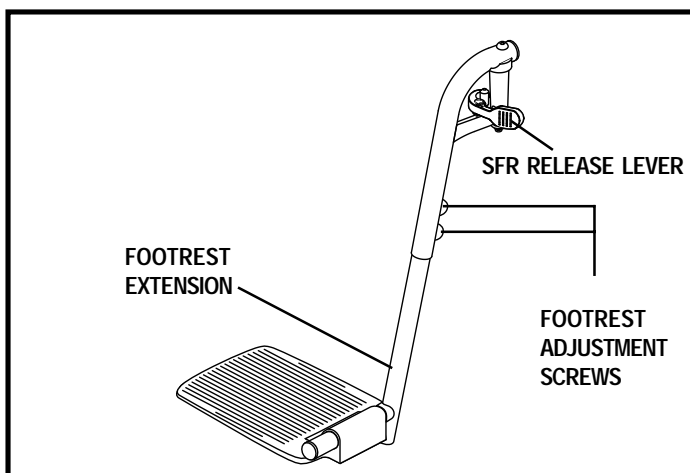

Figure 24. Swing-Away Footrests
1. Push in the release lever. See figure 24.
1. Remove the two adjustment screws from the side of each footrest extension. See figure 24.